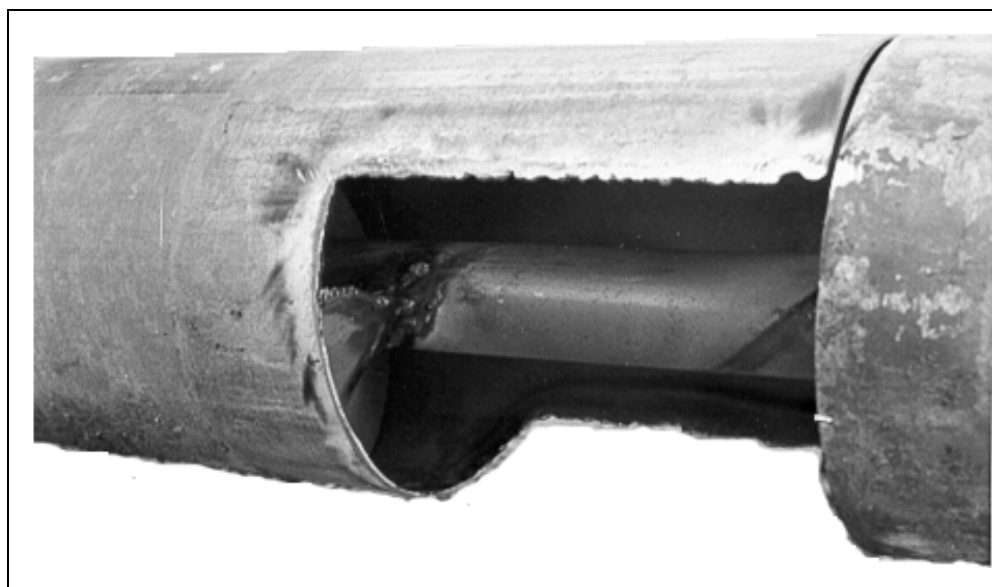

Figure 4B
2. Position the sensor connecting band on the discharge tube so that the rectangular hole is toward the discharge end. Mark the outline of the rectangular hole and the edges of the band on the discharge auger tube. Cut a hole in the discharge tube 8" long so the outline of the rectangular hole is removed (stay inside the total overall length marks of the band). Cut up one side of the discharge tube about one third ($\frac{1}{3}$) of the way around the tube. This extra room is for ease of removing flighting in the next step. (See Figure 4B on Page 12.)